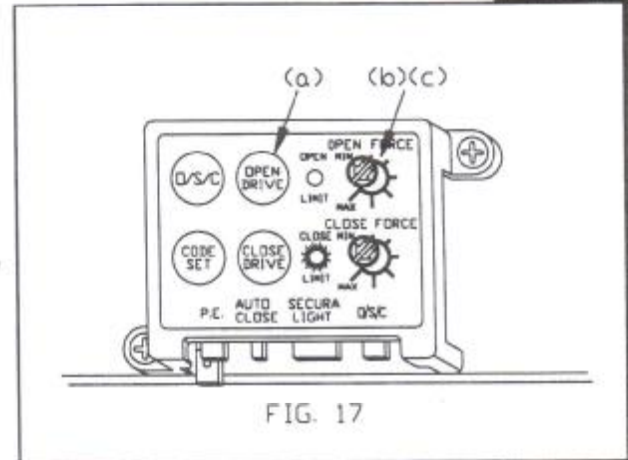

FIG. 17
- Turn the Green Close Force Shaft fully clockwise. Press the Yellow O/S/C (open, stop, close) button (see Fig.17) momentarily, the door should start opening. As the door is opening turn the Green Shaft slowly anticlockwise until the door stops.